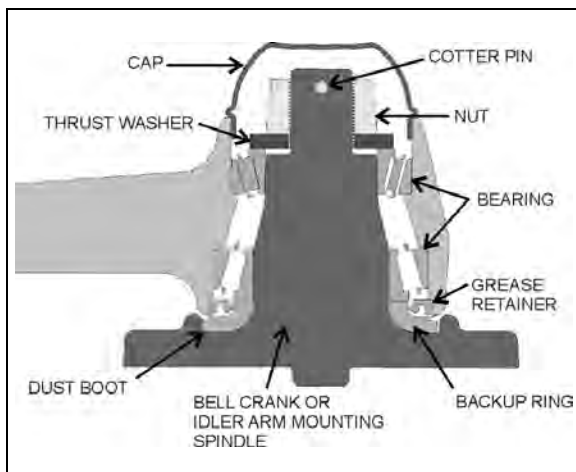

FIGURE 14: BELL CRANK OR IDLER ARM HUB
2. Remove the cap (Figure 14).
3. Remove the cotter pin, nut and thrust washer. Remove bearings, grease retainer, backup ring and the bell crank or idler arm from its mounting spindle (Figure 14).
*Install grease retainer according to Figure 14. Grease must be able to exit the bell crank or idler arm mechanism. For grease retainer*